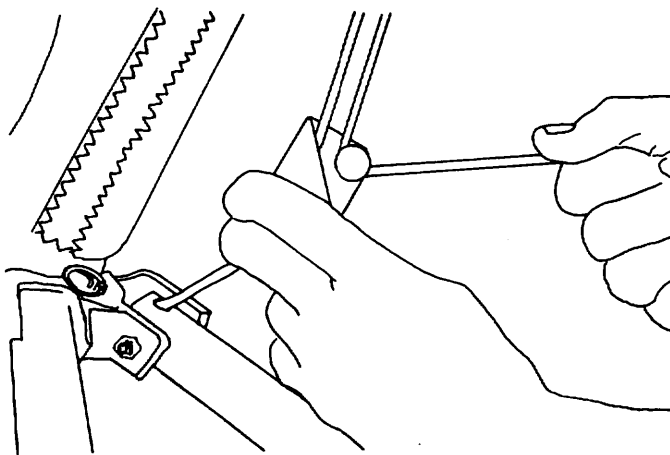

Fig 22
13) Remove the wingnut and safety from the bolt which is secured to the crossbar sweep wires. (The wires attached to the crossbar center.) Insert the free end of the piece of leech line which is attached to the control bar top through the thimble in the shortest of the two wires which make up the left (on your right as you face the rear of the glider) crossbar sweep wire. (Fig 21) Then pass the end of the leech line around the post on the black plastic loop cleat that is secured to the line near the top of the control bar leg. (fig 22)